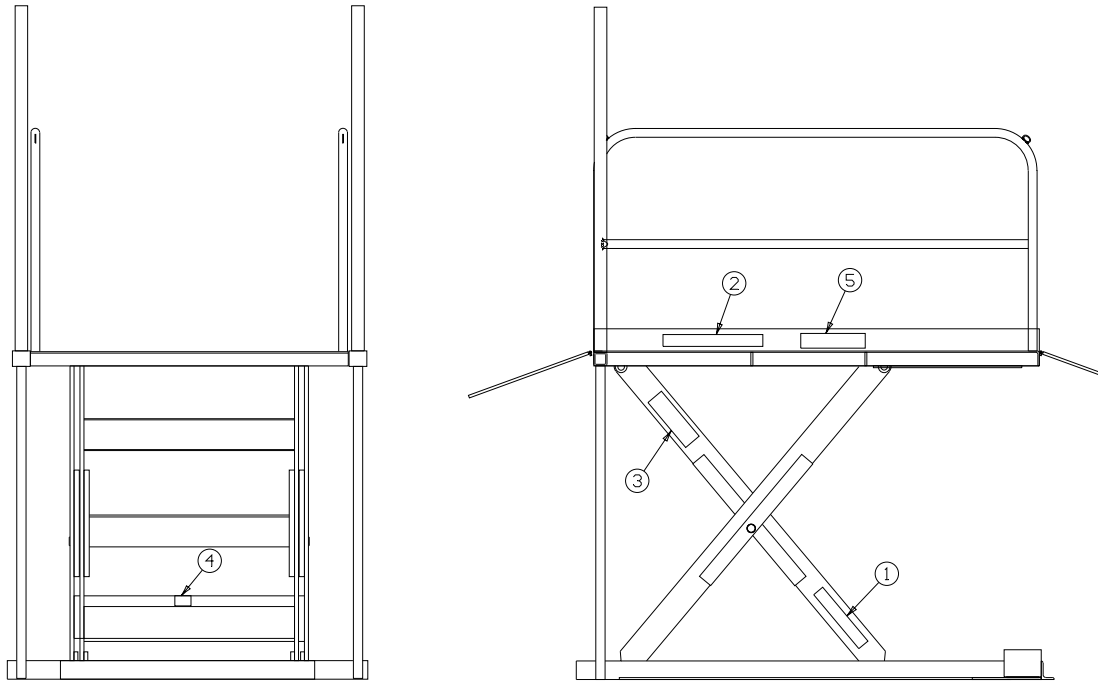

Figure 1 Label Placement
5. Make sure that all applicable labels are in place in accordance to Figure 1.